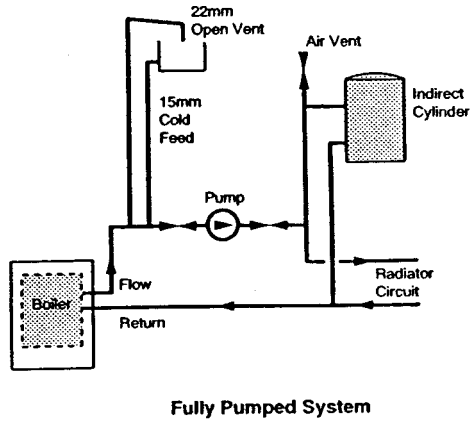

Fig. 3
3.5 Fully Pumped System (Fig. 3)